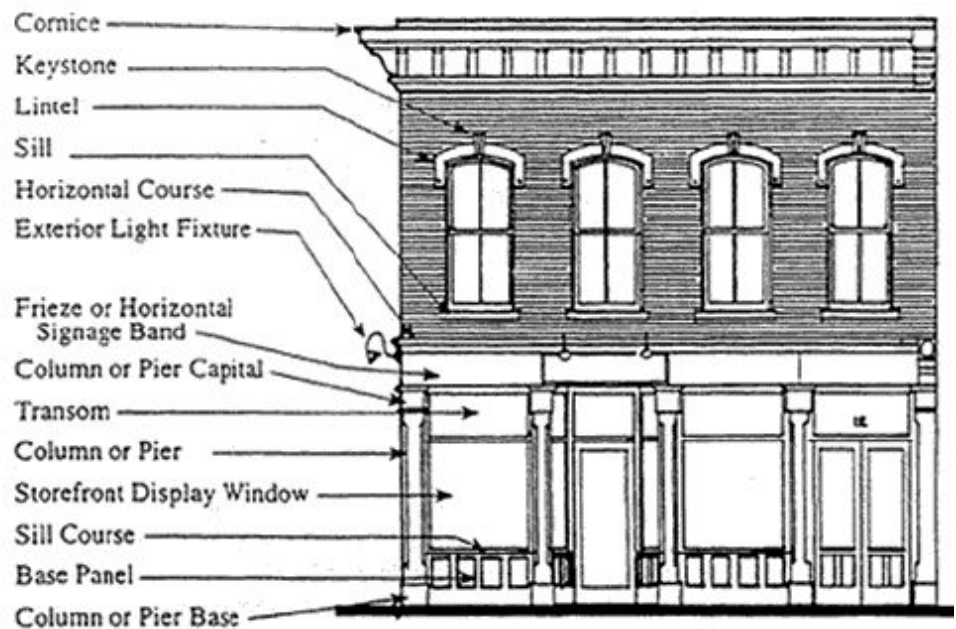

Figure 7
1. Roofline - A flat cornice (see **Figure 7**) at the top of a façade wall can be made more interesting by varying its height, shape, color, and materials. On multiple-tenant buildings, this helps create a distinct identity for each storefront, particularly when seen at close range. Where multiple tenant spaces have been combined, providing a unified scheme among disparate architecture helps to strengthen the business's identity. Original architectural features should never be sacrificed in the name of diversifying or unifying a façade when more transient devices, such as paint, fabric features, and signage, can create the same effect.
2. Moldings and Applied Decorations - There are many types of decorative moldings, brackets, cornices, shutters, turnings, columns or piers, and sidings, as seen in **Figure 7**. They can add rich detail to a plain building and help enliven a facade. It is important to appropriately apply style elements that correlate to an architectural period. More modern decoration should use form and composition distinctive to the present.